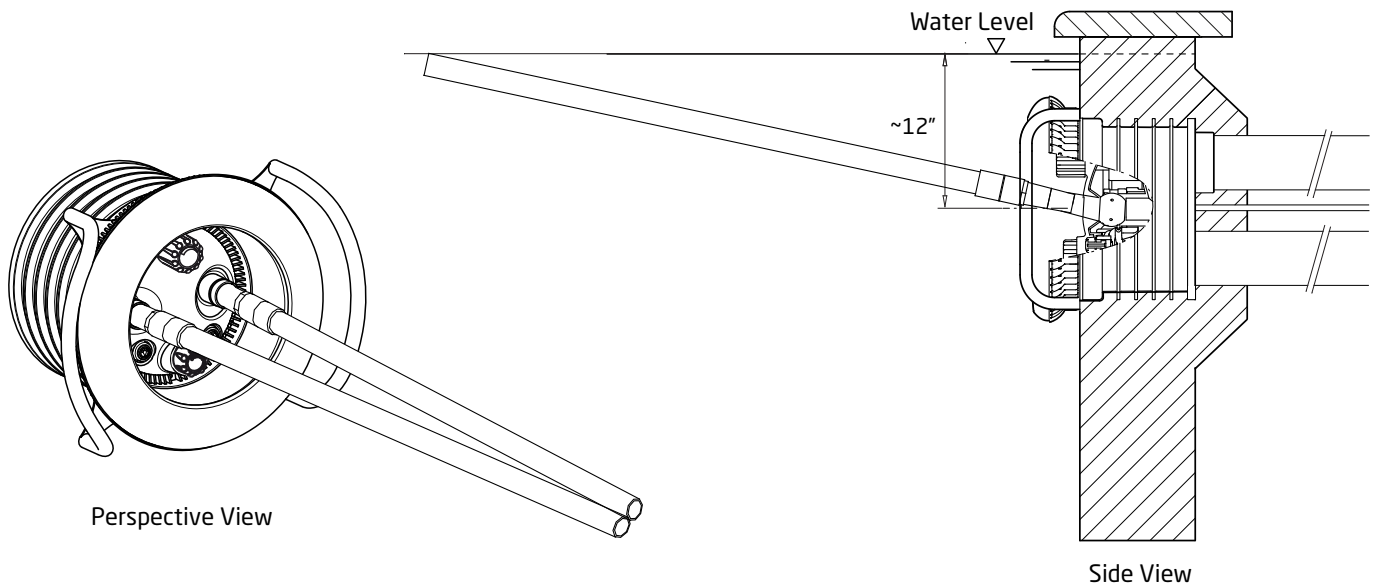

Figure 25
3. Once that is complete, bring the blue nozzle tool up to where the end of the nozzle tool breaks the surface of the water. Then bring the two nozzles tools together to meet. (See Figure 25)